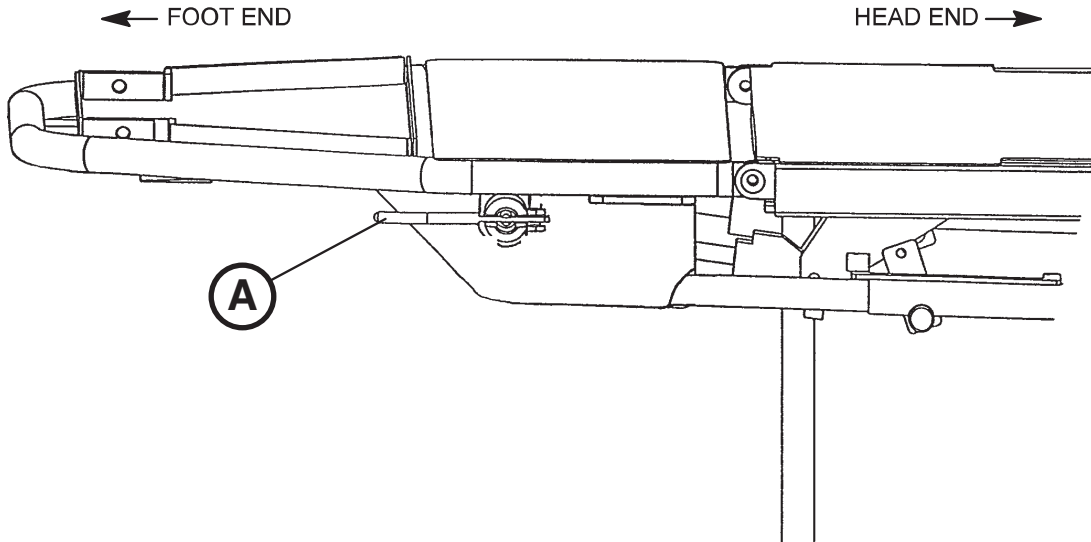

Figure 6: Foot Section
During dependent (Chair Mode) operation, the foot section will articulate with the fowler when moving from the sitting to the supine position. For the foot section to be in Chair Mode, the red handle (A), located on both sides of the foot section, must point toward the head end of the stretcher chair as shown in Figure 6.
When the foot section is in the Independent Mode, it can articulate to any position independent of the fowler. To operate the foot section in the Independent Mode, rotate the red handle (A) so it is pointing toward the foot end of the stretcher chair, as shown in Figure 6. The foot section is now locked in place, independent of the fowler.